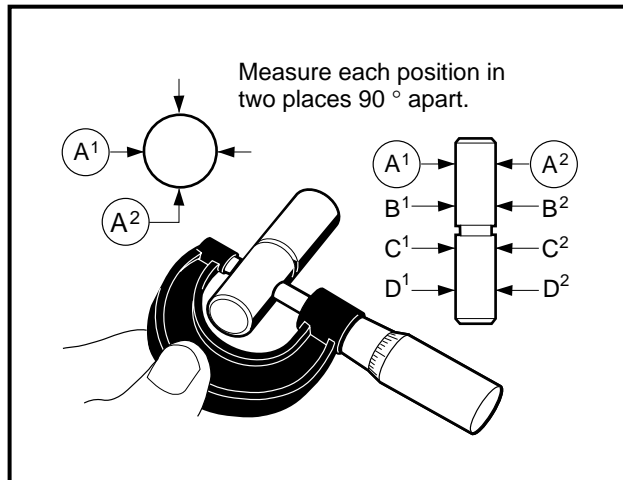

Figure 13-34 Measure Rocker Shaft I.D.
3. Using a micrometer, measure the diameter of the rocker shaft at several points along its length (**Figure 13-34, Page 13-19**).